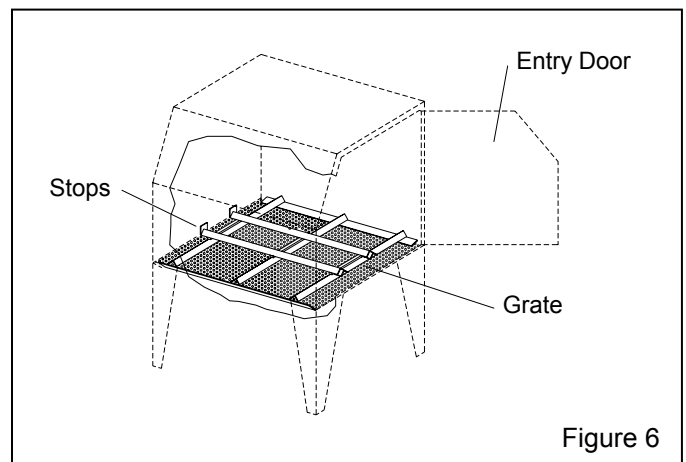

Figure 6
3.4.2 Place the inside track in the cabinet over the existing grate as shown in Figure 6.